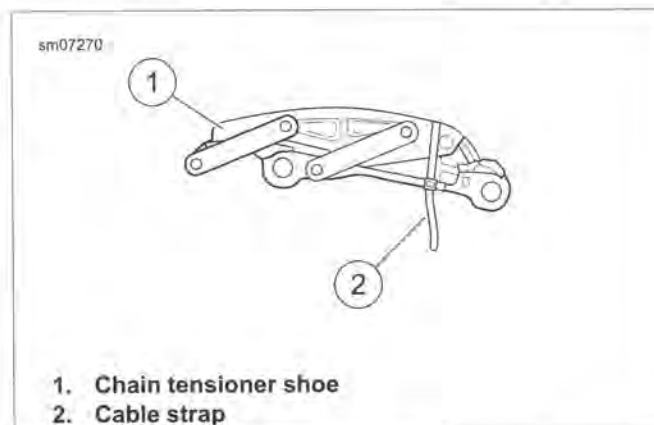

Figure 5-4. Securing Chain Tensioner
3. See Figure 5-4. Secure chain tensioner with a cable strap as shown. Install so the tail of the cable strap hangs down past the primary housing. This serves as a reminder to remove the cable strap before installing the primary cover.